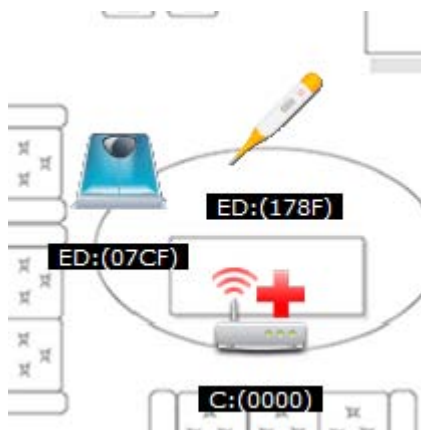

Figure 14. Hc WeightScale Joined the Network as a New Node
6. Wait until the node is detected in the ZeD GUI where it appears as a new icon as shown in Figure 14.